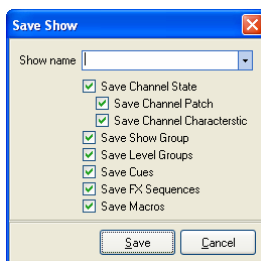

Figure 17: "Save Show" dialog
1. Open the save show dialog by clicking on the file menu and selecting "Save Show". See Figure 17